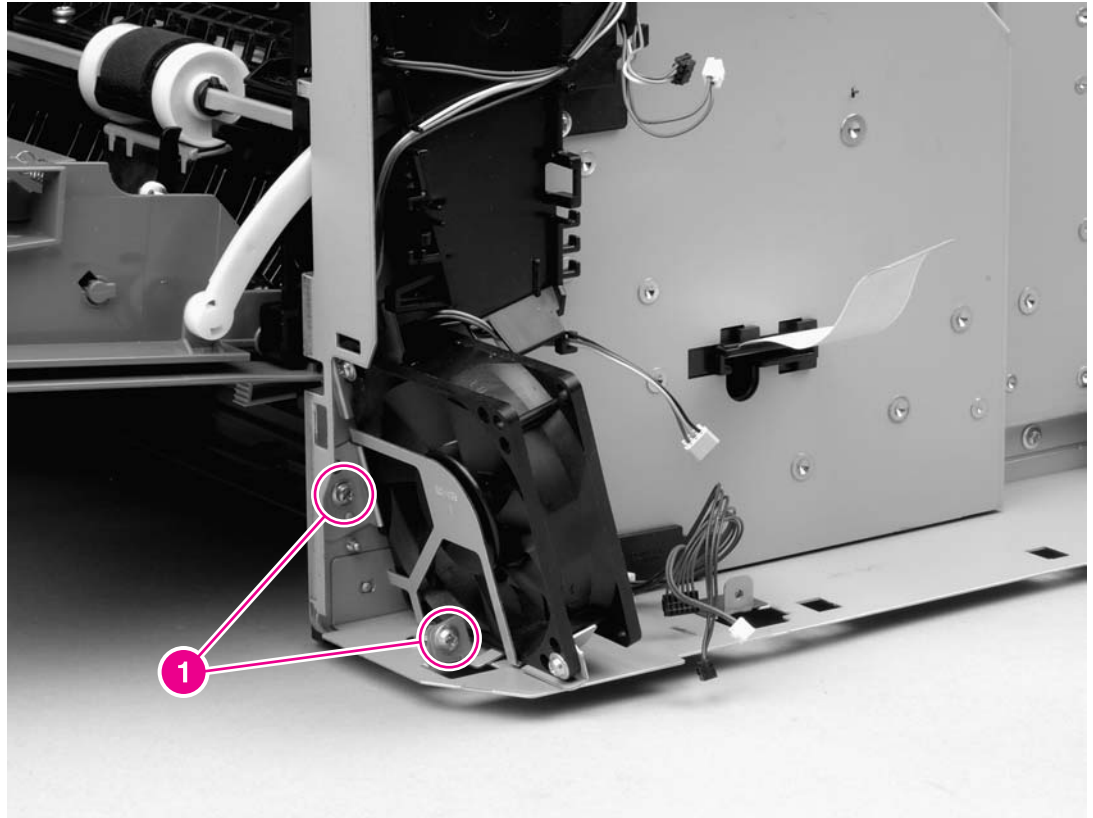

Figure 6-41. Removing the gear assembly (1 of 6)
6. Remove the right-side fan (see Figure 6-41. Removing the gear assembly \(1 of 6\)).